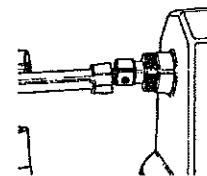
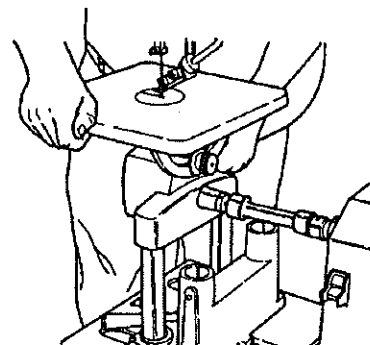
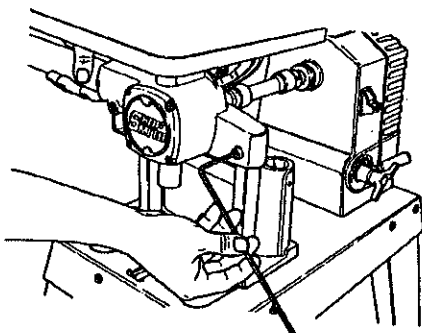
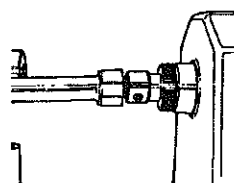

Fig.G-9
Fig.G-10
Fig.G-12
Fig.G-11
11. Fig.G-9 shows typical vertical misalignment. After you have horizontally aligned the Jigsaw to the drive shaft hub (31), lift the Jigsaw (as in Fig.G-10) until the coupler vertically aligns with the drive shaft hub, shown in Fig.G-11. When they are vertically aligned, tighten the Jig Saw tube setscrews. See Fig.G-12. Recheck the vertical alignment. If it is off, re-do it.